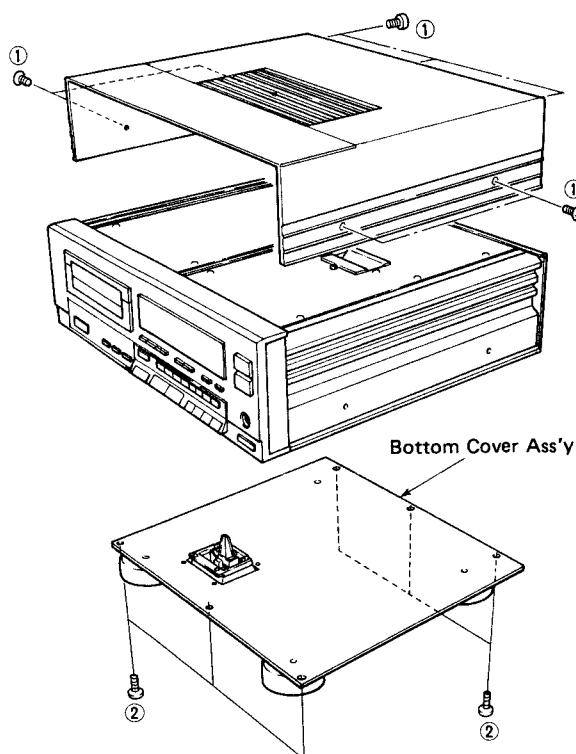

Fig. 1
Remove 7 screws (①) in Fig. 1, and then slide the Top Cover Ass'y to the back side.
Remove 6 screws (②) in Fig. 1.